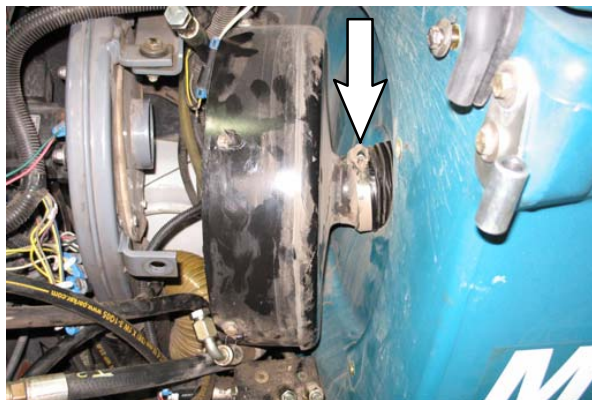
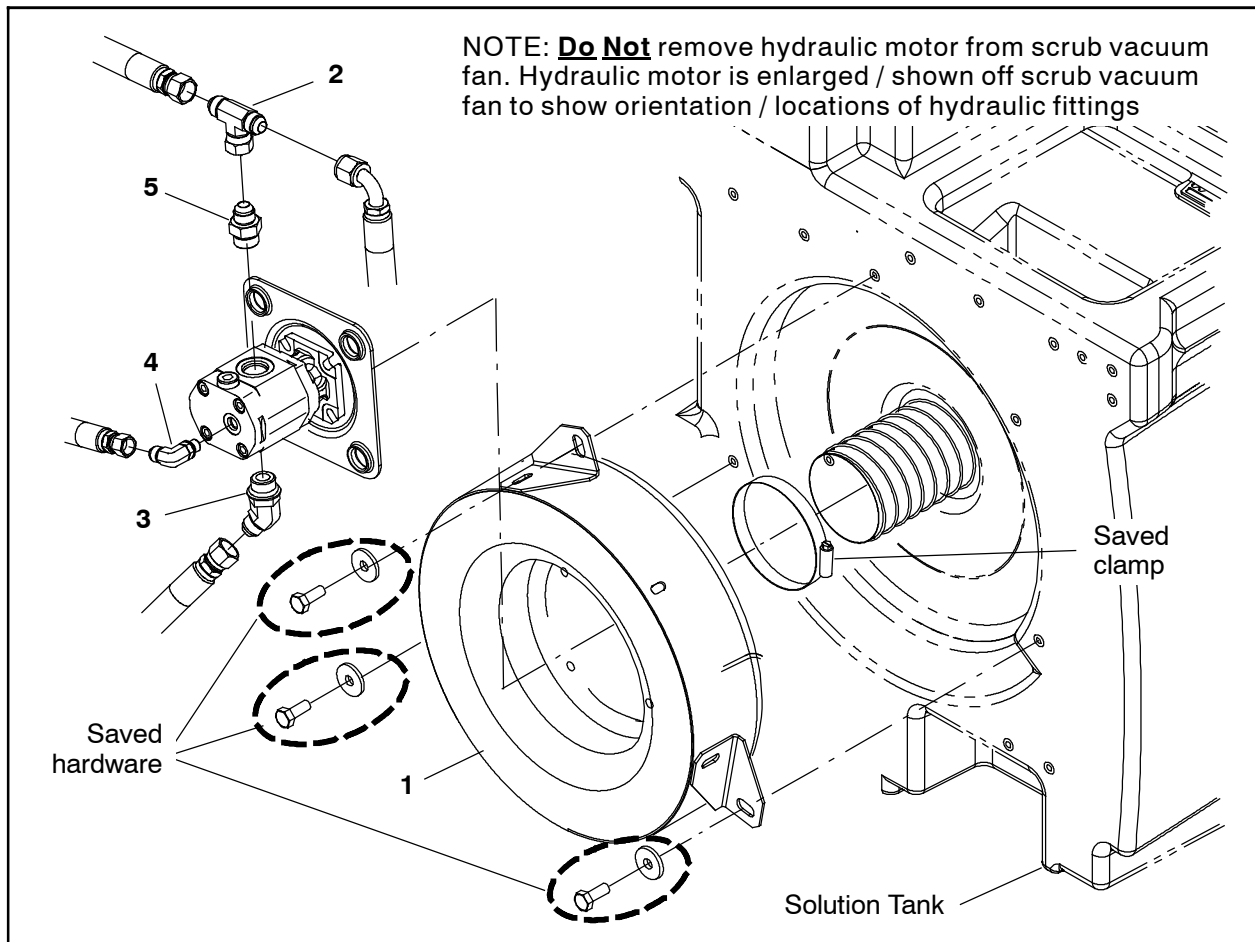

FIG. 12
FIG. 13
10. Disconnect the hose from the scrub vacuum fan. Set the hose clamp aside. (Fig. 12)
11. Remove the scrub vacuum fan from the machine. (Fig. 12)
12. Remove the plugs from the new scrub vacuum fan (1) motor. (Fig. 13)
13. Install the straight fitting (5) into the vacuum fan (1) motor. (Fig. 13)
14. Install the t-fitting (2) into the straight fitting (5) installed into the scrub vacuum fan (1) motor. Do not completely tighten t-fitting. The t-fitting is tightened during later adjustment. (Fig. 13)
15. Install the 90° fitting (4) and 45° fitting (3) into the scrub vacuum fan (1) motor. Note orientation of both fittings on the hydraulic motor. (Fig. 13)
16. Place the new scrub vacuum fan (1) where the old scrub vacuum fan was previously installed. (Fig. 12 / Fig. 13)
17. Clamp the vacuum hose onto the scrub vacuum fan (1). (Fig. 12 / Fig. 13)
18. Use the saved hardware to install the scrub vacuum fan (1) onto the solution tank. (Fig. 13)